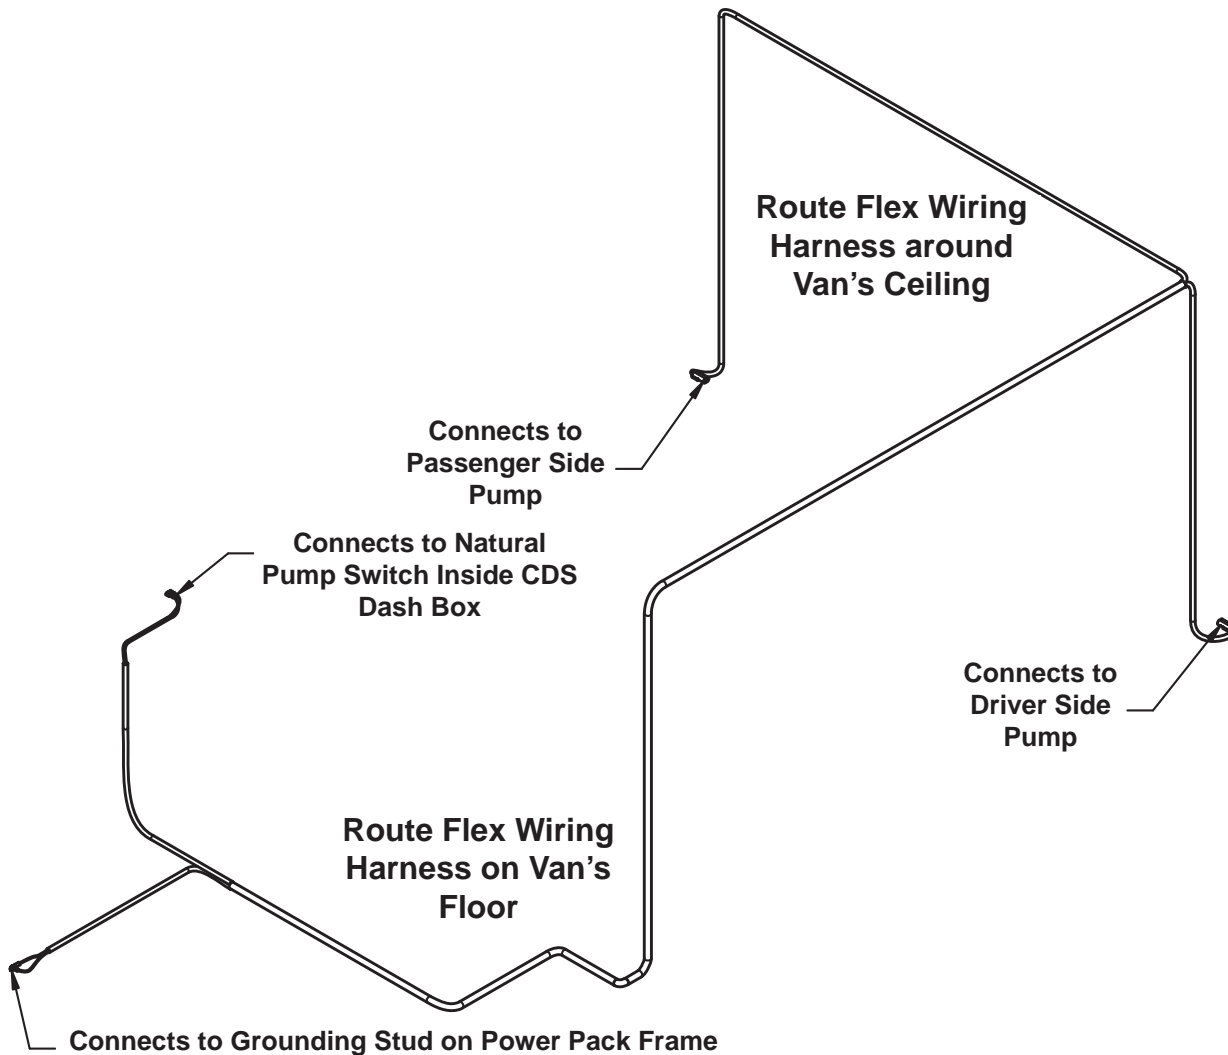

Figure 86. Route Flex Wiring Harness along Van's Ceiling and Floor
2. Route the Flex wiring harness on the van's floor as shown in Figure 86 so that the 4 connecting points on the Flex Harness will easily reach the passenger side pump, the driver side pump, the CDS dash box near the instrument panel and the Power Pack frame.